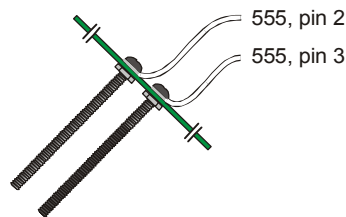

Figure 5-6
- ✓ Re-install the conductivity sensor. Figure 5-6 shows how to connect the probe to the 555 timer on your breadboard.